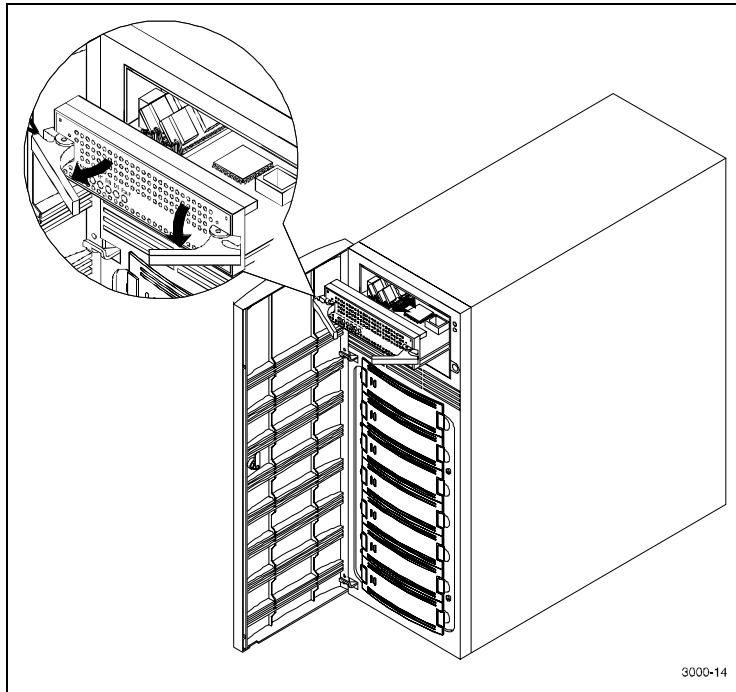

Figure 1-8. Remove controller from top slot
1. Replace the existing controller with the new controller (see Figure 1-8).